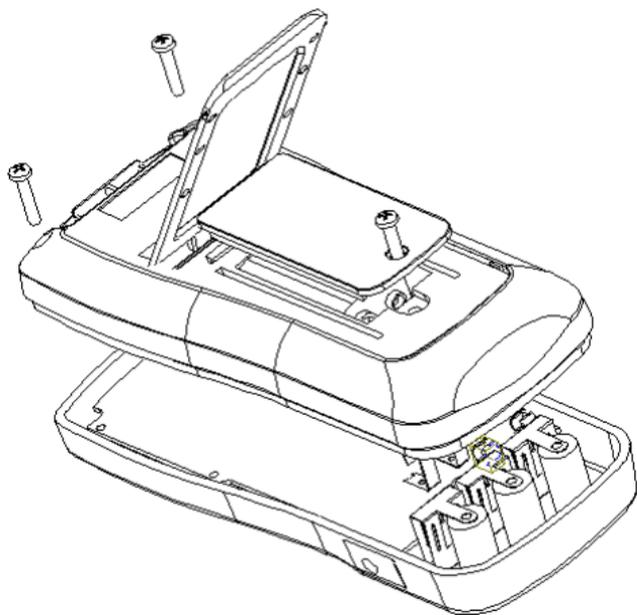

Figure-10. Fuse Replacement
2. Loosen screws with suitable screwdriver and remove bottom cover as **Figure-10**.